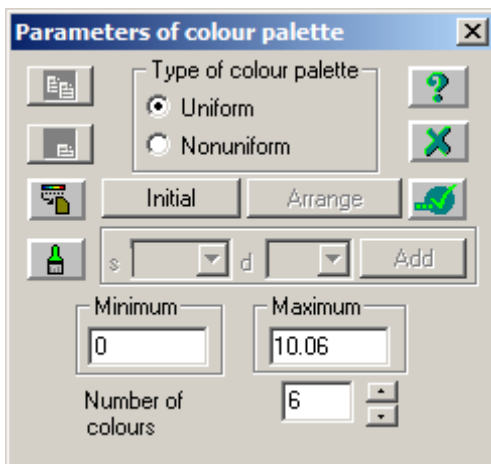

Figure 2.4.17 **Parameters of colour palette** dialog box (after edit options)
- define number of colours as equal to 6 (see Fig.2.4.17);